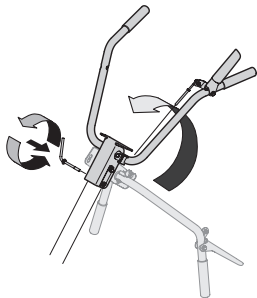

Figure 6
3. Remove the handle adjustment crank from the handle. See Figure 6.
4. Rotate the handle upward and secure it in place with the handle adjustment crank. See Figure 6.